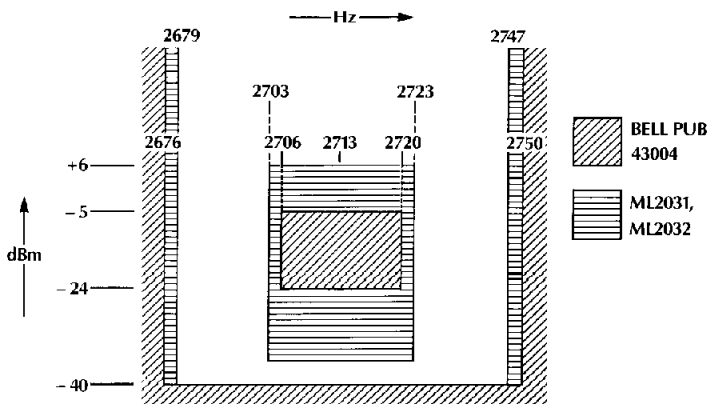

Figure 4. Tone Detector Template
1. 2713 Hz tone satisfies amplitude vs. frequency tone detector template shown in Figure 4.
The tone comparator compares the tone energy to a fixed reference value to determine if it meets the amplitude requirements for tone detection shown in Figure 4.